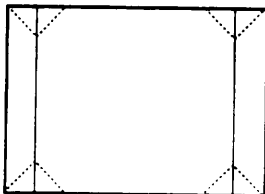

Fig 5.
- d: Adjust the E-W CORNER to obtain condition as in fig. 5.